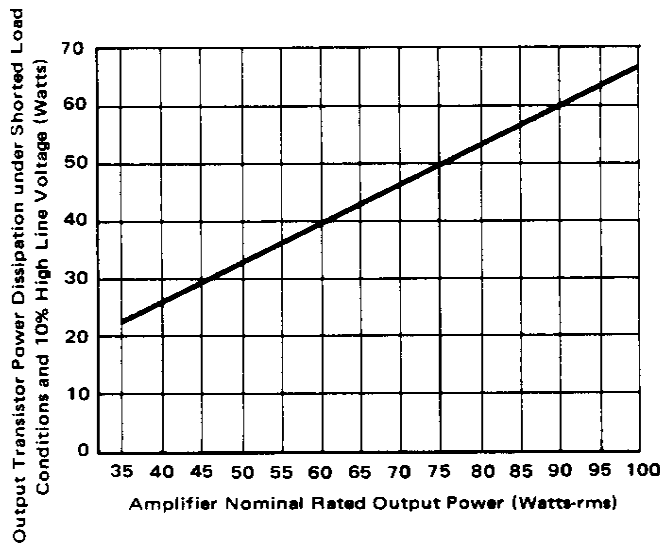

FIGURE 6 – Output Transistor Power Dissipation under Shorted Load Conditions versus Amplifier Nominal Rated Output Power
**Short Circuit Power Dissipation in Each Output Transistor:** (See Figure 6)